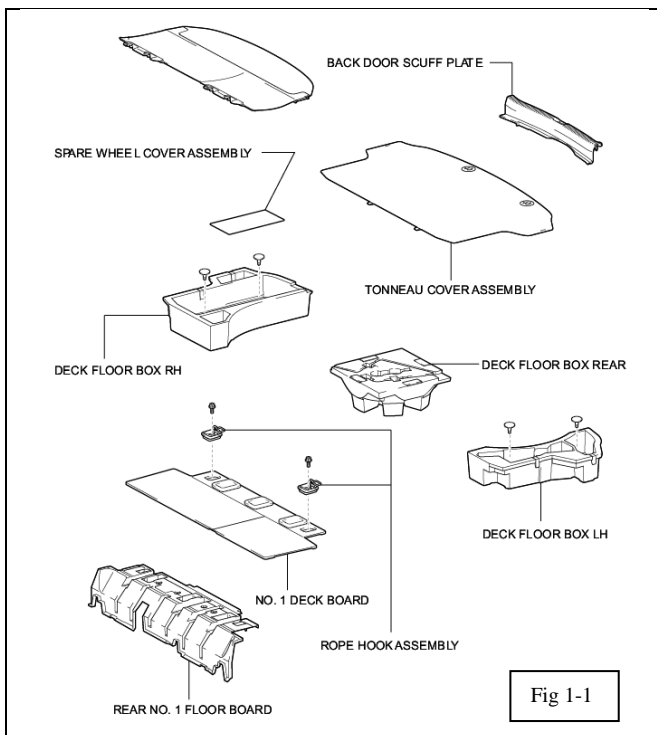

Fig 1-1
- Remove rope hooks assemblies. (Fig 1-1)